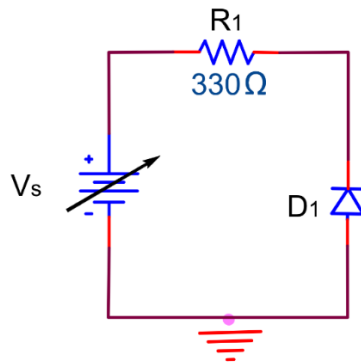

Figure 16.2
2. For Figure 16.2 calculate V_{R1} , V_{D1} , and I_f . Enter the data into table 2 in the procedure section.